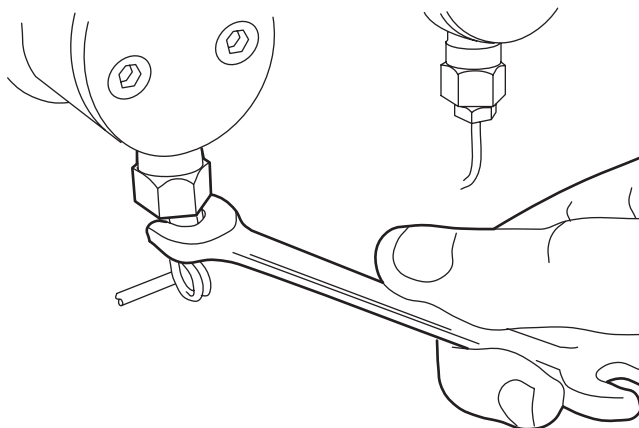

Figure 4-7 Disconnecting the Inlet Tubing
8. Use the 1/2-inch open-end wrench to remove the inlet check housing from the pump head (see Figure 4-7).